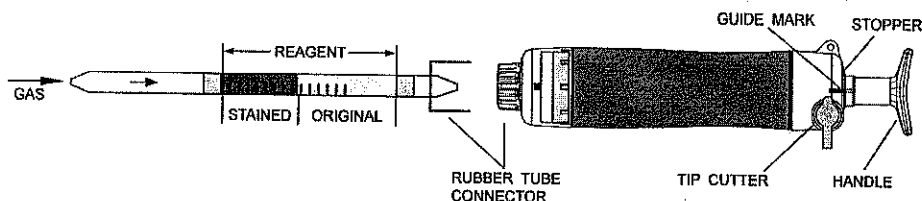

Fig.1
- ① Break both ends of detector tube.
- ② Insert the detector tube into aspirating pump securely as shown in Fig.1. (Arrow mark shall point to the pump.)
- ③ Align the guide marks on the shaft and stopper of the aspirating pump.
- ④ Pull the pump handle at full stroke until it locks and wait for 1 minute or until the completion of sampling is confirmed with the flow indicator of the pump (See descriptions about the flow indicator in the instructions of the pump).
- ⑤ On completion of sampling, read the scale at the maximum point of the stained layer.
- ⑥ If the discolouration is over the scale, change the tube and pull 1/2 strokes.